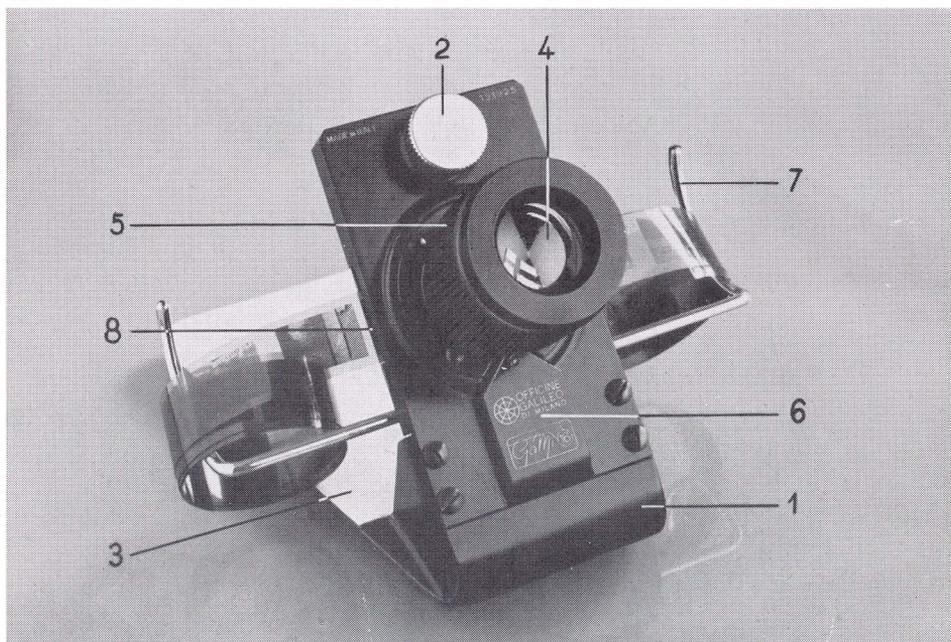

fig. 1
For this use the viewer is assembled as shown in fig. 1.
The viewer is set on a table oriented so that the light from a window or a lamp should hit the white surface of the base (3 - fig. 1). The white surface acts as a diffuser permitting a clear, glareless and shadowless observation through lens (4 - fig. 1).
Plate (6 - fig. 1) operates a small punching head which can punch small moon shaped holes on the edge of the film. To operate the punch it is only necessary to exert a positive pressure on plate (6). This is done every time one sees through the eyepiece a picture worthprinting, enlarging or slide mounting. The advantage of the punching method of tagging the pictures is that the small punched hole can be found also in the dark by touch and is easily projected on the image plane by the GaMi enlarger, so that in any case the selected frames can be easily recognized.
The metal rod (7 - fig. 1) keeps the roller film in place before and after its passage through track (8) of the viewer.